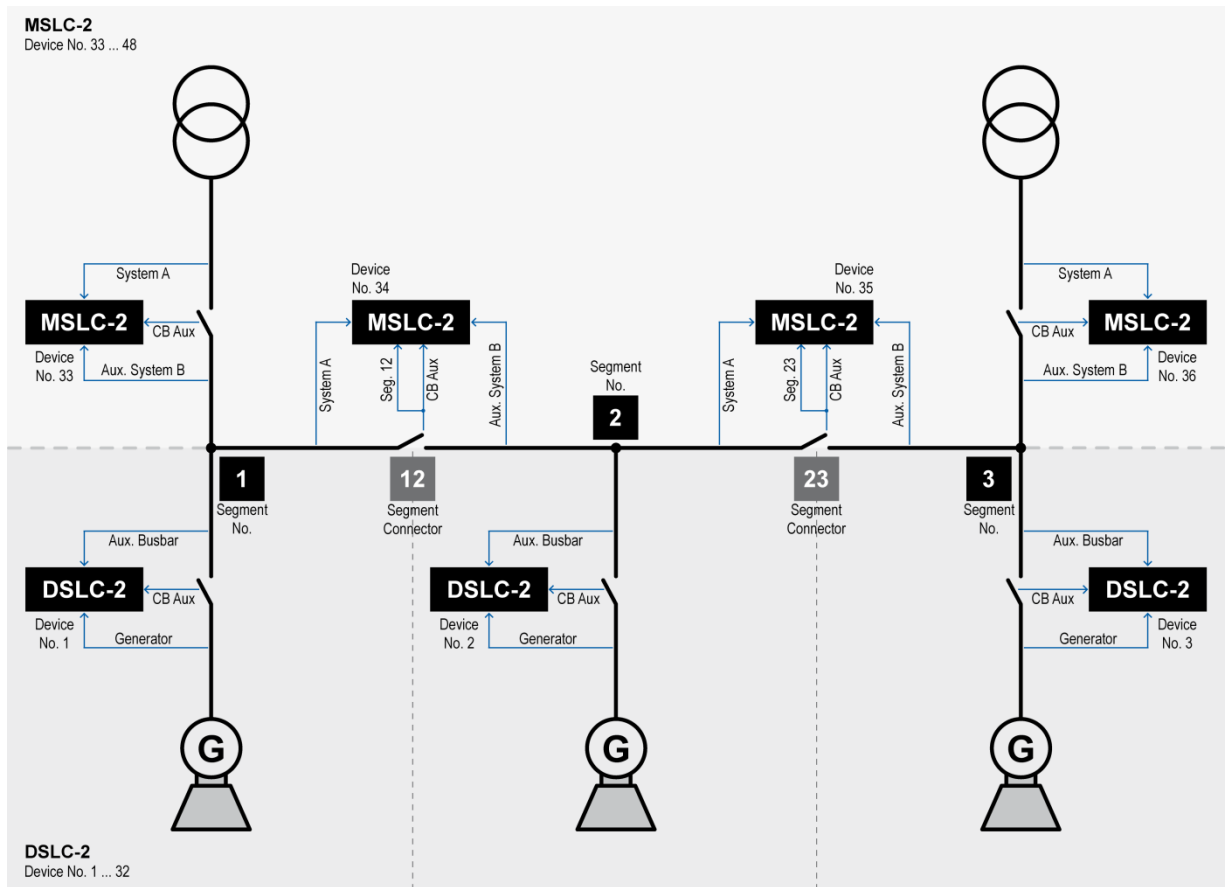

Figure 3-43: Example of an online diagram with segment numbers and segment connector feedbacks
2. Draw the measurement systems arrows between unit and bars (refer to Figure 3-43).
3. Draw the segment numbers into your online diagram (refer to Figure 3-43).
4. Draw the device numbers of your units in your online diagram (refer to Figure 3-43).
5. Draw the “CB Aux” feedbacks and segment connection feedbacks in your online diagram (refer to Figure 3-43).